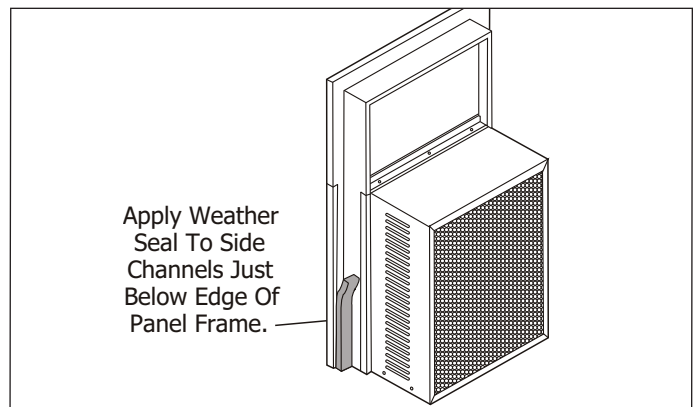

Figure 2-44.
13. Cut side channel seal into 2 equal lengths. Remove protective backing and apply it to the rear side of cabinet side channels starting just below panel frame assembly. Pinch off excess length so seal is even with the bottom of the cabinet side channel. (See Figure 2-44)